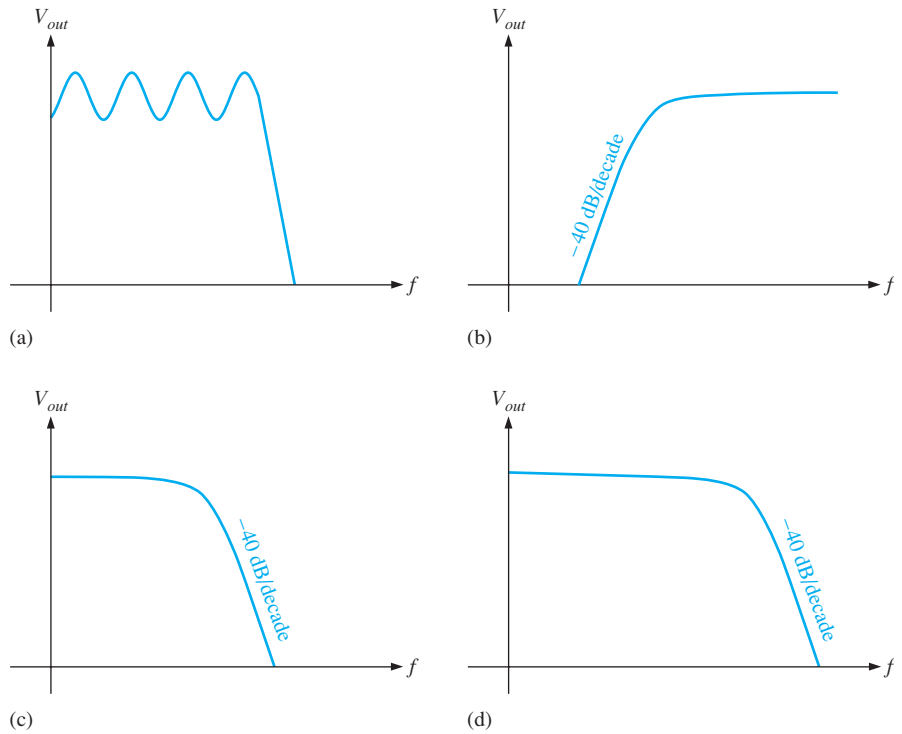

FIGURE 9-30
9. Response curves for second-order filters are shown in Figure 9-30. Identify each as Butterworth, Chebyshev, or Bessel.